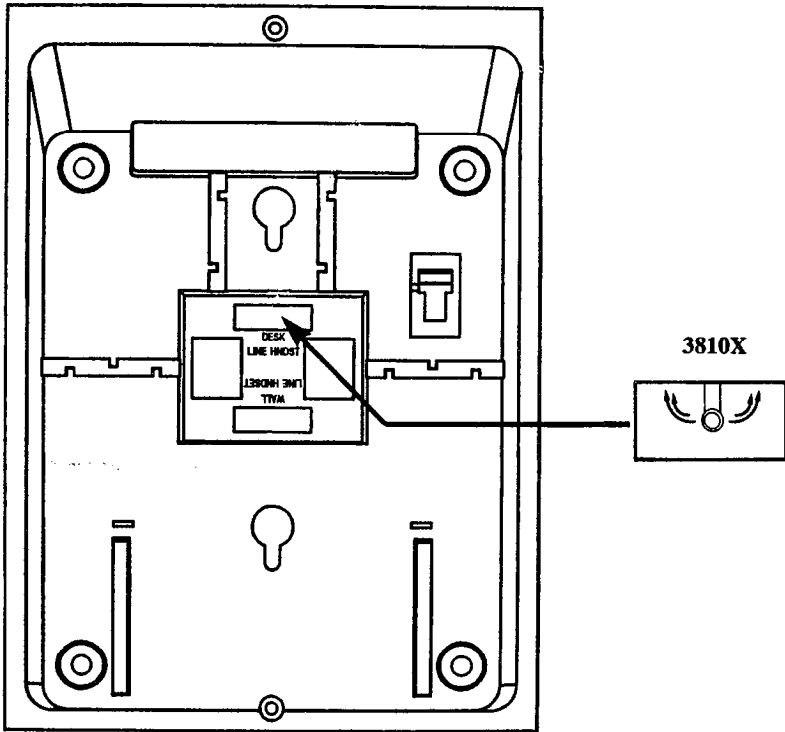

Figure 3. Ringer Volume Switch
- Locate ringer lever on bottom of telephone housing (Figure 3).